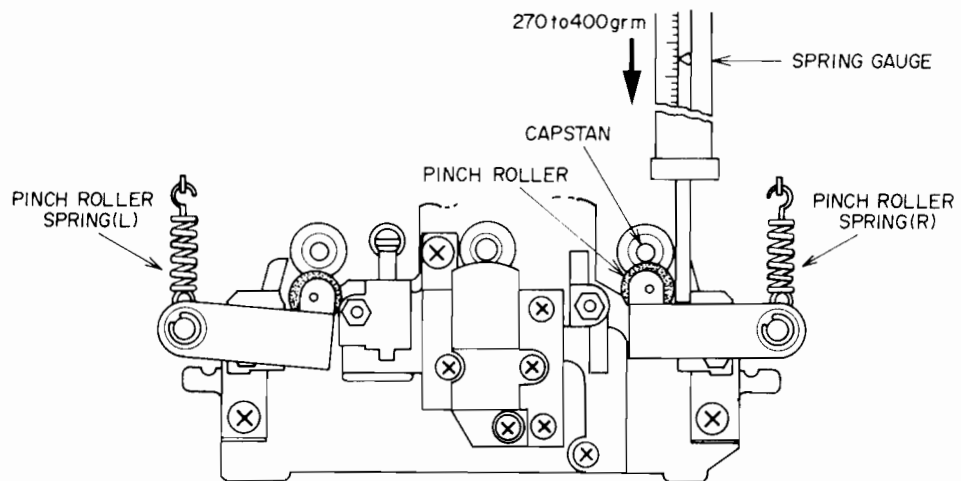

Fig. 12
3. PINCH ROLLER PRESSURE MEASUREMENT (Refer to Fig. 12)